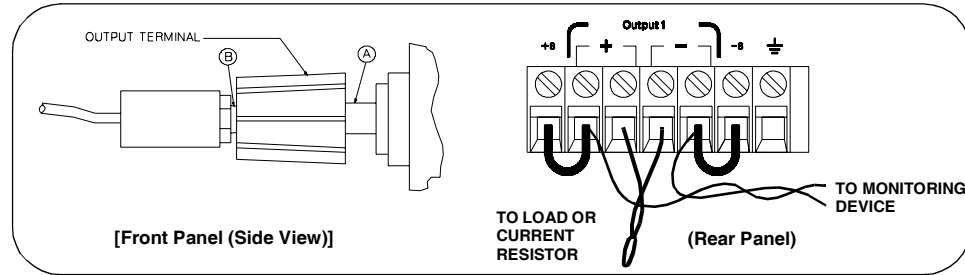

Figure A-2 Front/Rear Panel Terminal Connections
When measuring  $V_{rms}$  ripple and noise, the monitoring device should be plugged into the front of the terminals at (A) in Figure A-2. Use the BNC (Female) receptacle and the cable (BNC to BNC) to connect the monitor device to the power supply. To reduce the measurement error caused by common mode noise, it is recommended to twist the connection wire between the BNC receptacle and the output terminals. The load resistor is connected to the terminal at (B) in Figure A-2. Twisted leads between the load resistor and the power supply helps reduce noise pickup for these measurements.